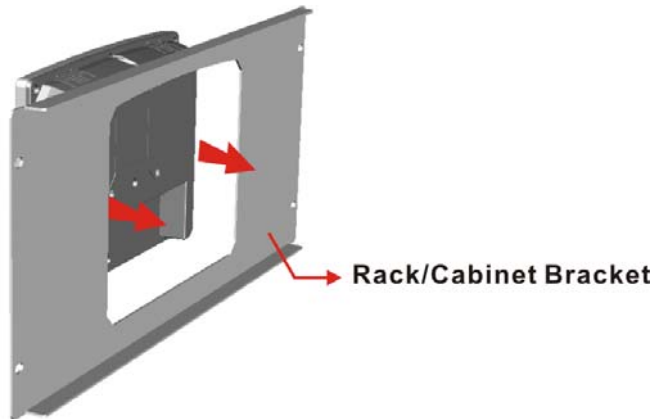

Figure 3-17: The Rack/Cabinet Bracket
- Step 1:** Slide the rear chassis of the AFL2-10A-N28 flat bezel panel PC through the rack/cabinet bracket until the frame is flush against the front of the bracket (Figure 3-17).